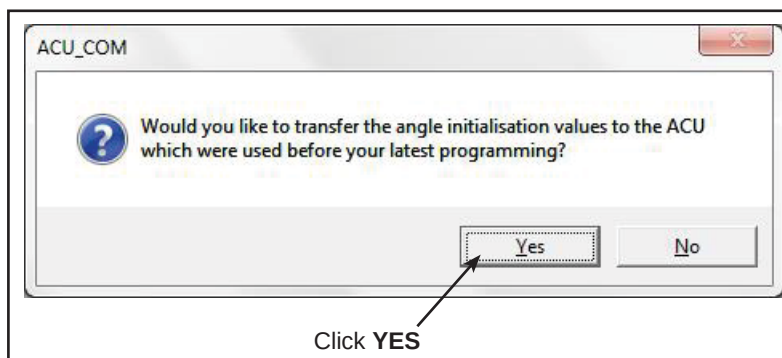

Figure 11 - Initialisation Values Pop-Up Window
- 1.18. A third pop-up window will appear, asking whether to keep the initialisation values. See Figure 11. Click **YES**.